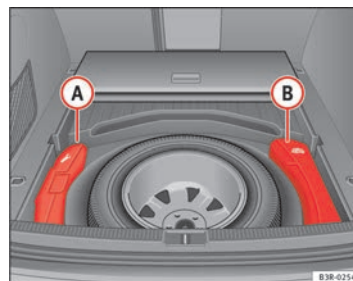

Fig. 190 Toolbox and jack
The tools (A) and jack (B) ⇒ fig. 190 for vehicles with a spare wheel and for vehicles with the tyre repair kit are stored under the floor panel in the luggage compartment.